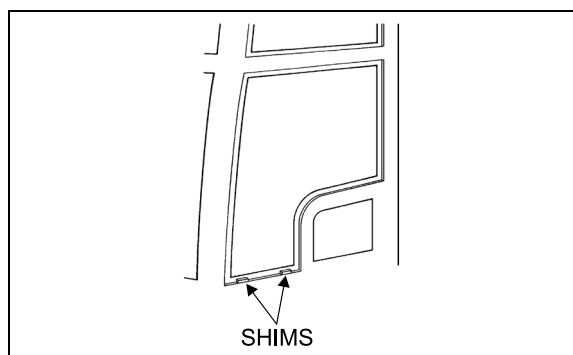

FIGURE 38: ADHESIVE-MOUNTED WINDOW 18079
*Use small shims to raise the glass in proper position. Shims can be cut from the tremshield tape (Figure 38).*